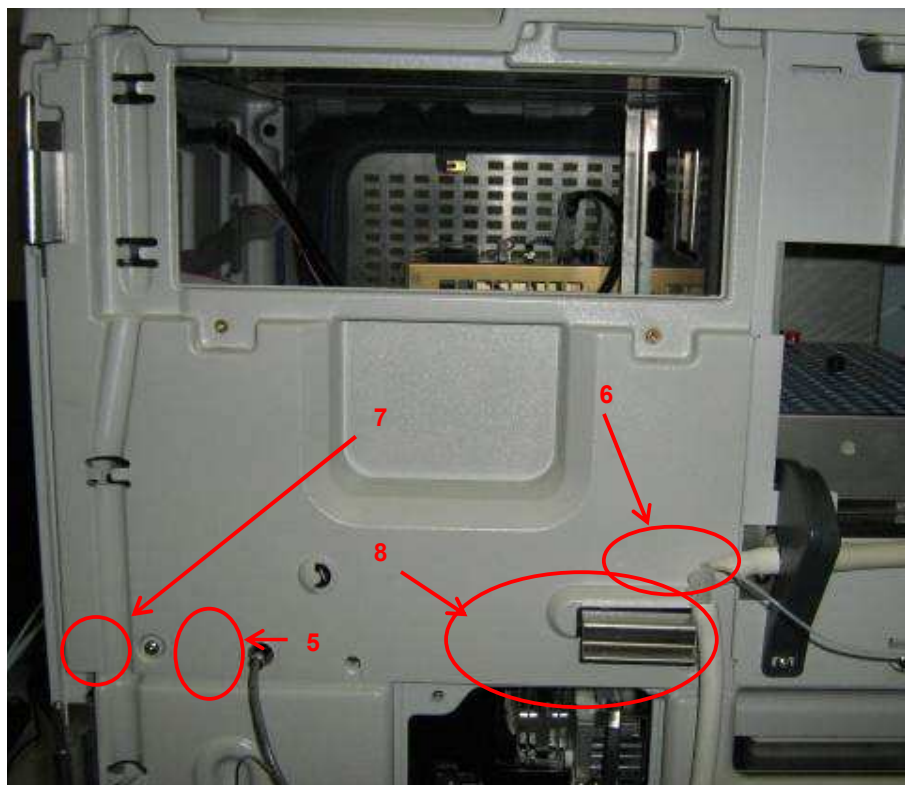

Figure 6: Removing the front panel
6. With the column oven removed, disconnect the leak sensor (5) on the front of the 920, disconnect the drain elbow from the autosampler (6), and remove the Striker Plate (8) with the screw in the bottom right side. You will also need to remove the remaining front panel screw (7) (Figure 6).